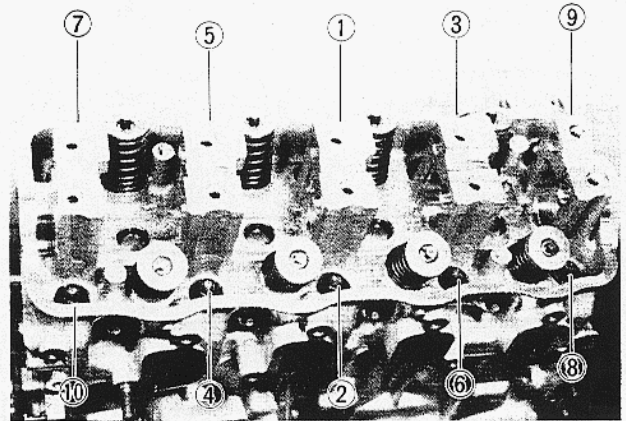

Fig. 3-6-34 Tightening sequence of cylinder head bolts
8) Install cylinder head onto cylinder block. Tighten cylinder head bolts gradually with a torque wrench, following sequence in Fig. 3-6-34. Finally tighten bolts to specified torque.